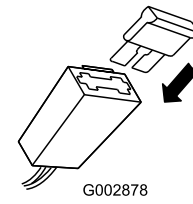

Figure 47
2. Install the fuse in the fuse holder (Figure 47).